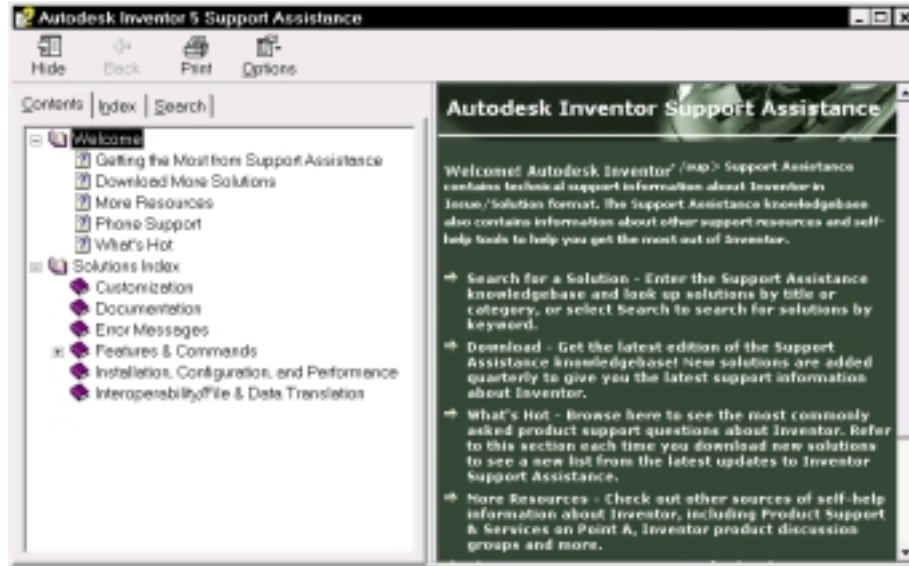

Figure 1-4
1. Select Support Assistance Help from the Help pull-down menu. (See Figure 1-4.)